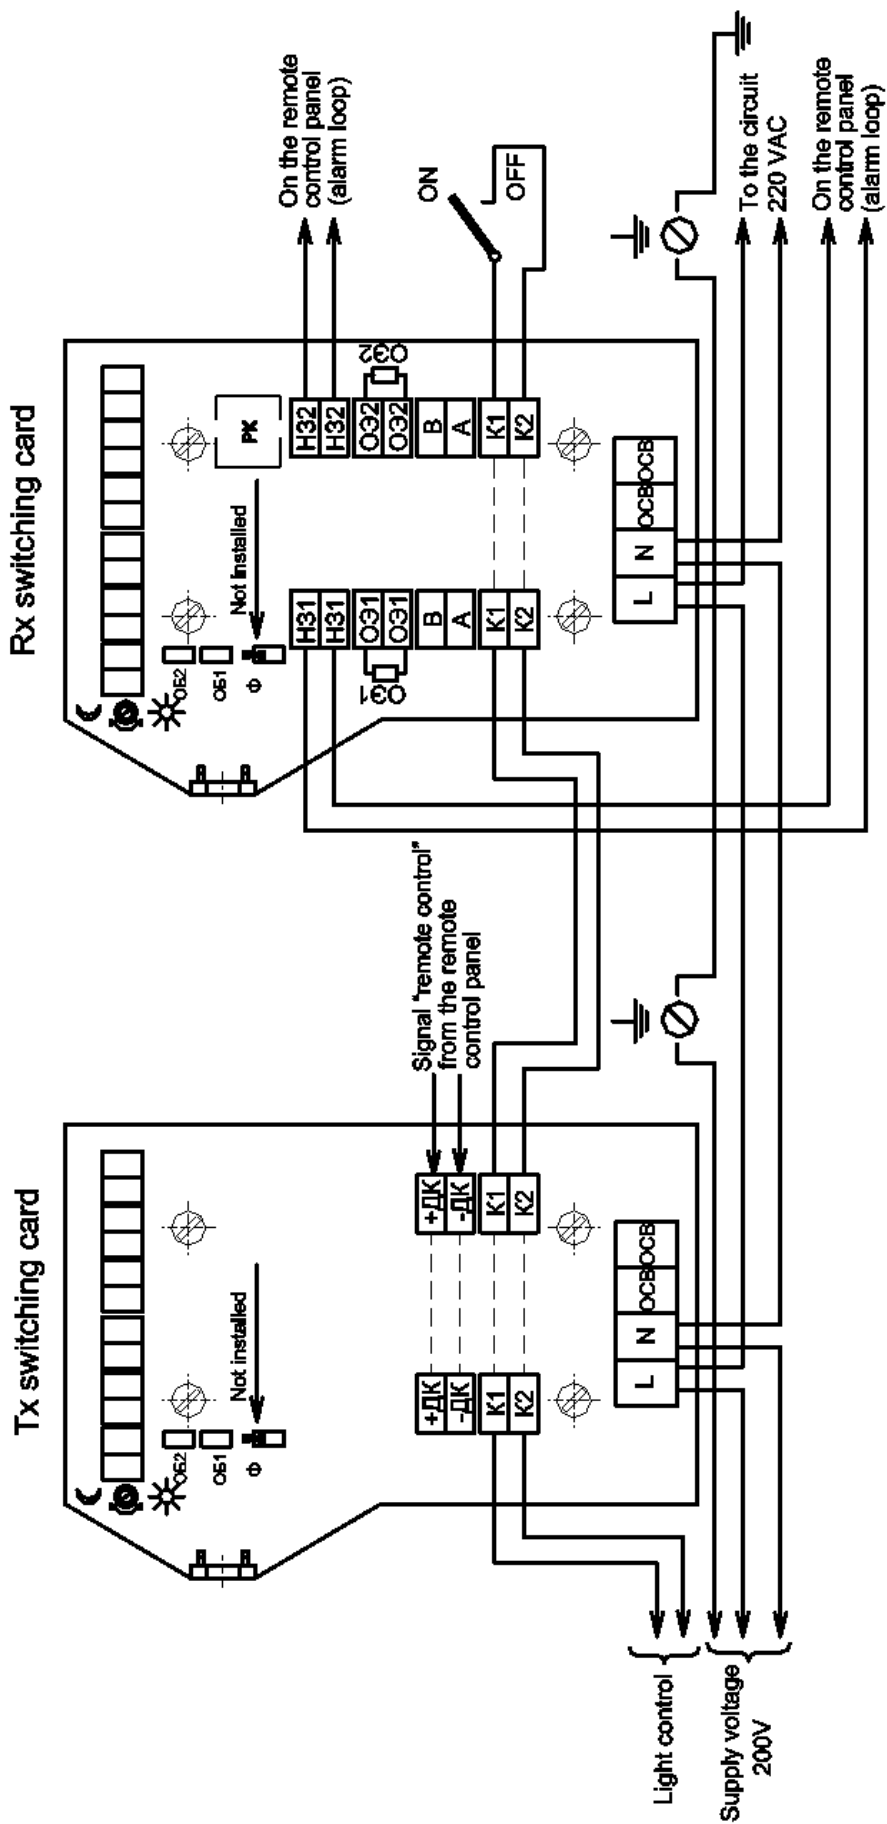

Fig.8.3 – FORTEZA-FONAR-COMBI connection with the light control by hand
8.3.6. *To control the light by hand* with a switch, join all the units by two-wire circuit observing the polarity (“K1”-connector block, “K2”-connector block) as it is given in fig.8.3 (see item 3.10). It is necessary to switch OFF a photo relay in all the units removing the jumper “Φ” (photo relay) on the switching cards.
The connection diagrams are given in fig.8.3, 8.4.